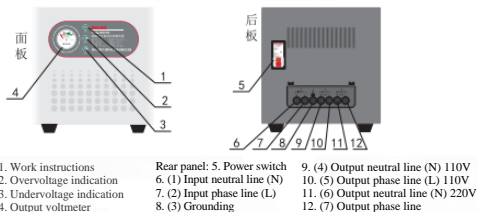

Fig. 8. Shape of TND-3kVA-5kVA AC voltage stabilizer
3.2 The shape of TND-3kVA and 5kVA high-precision automatic AC voltage stabilizers is shown in Figure 8.